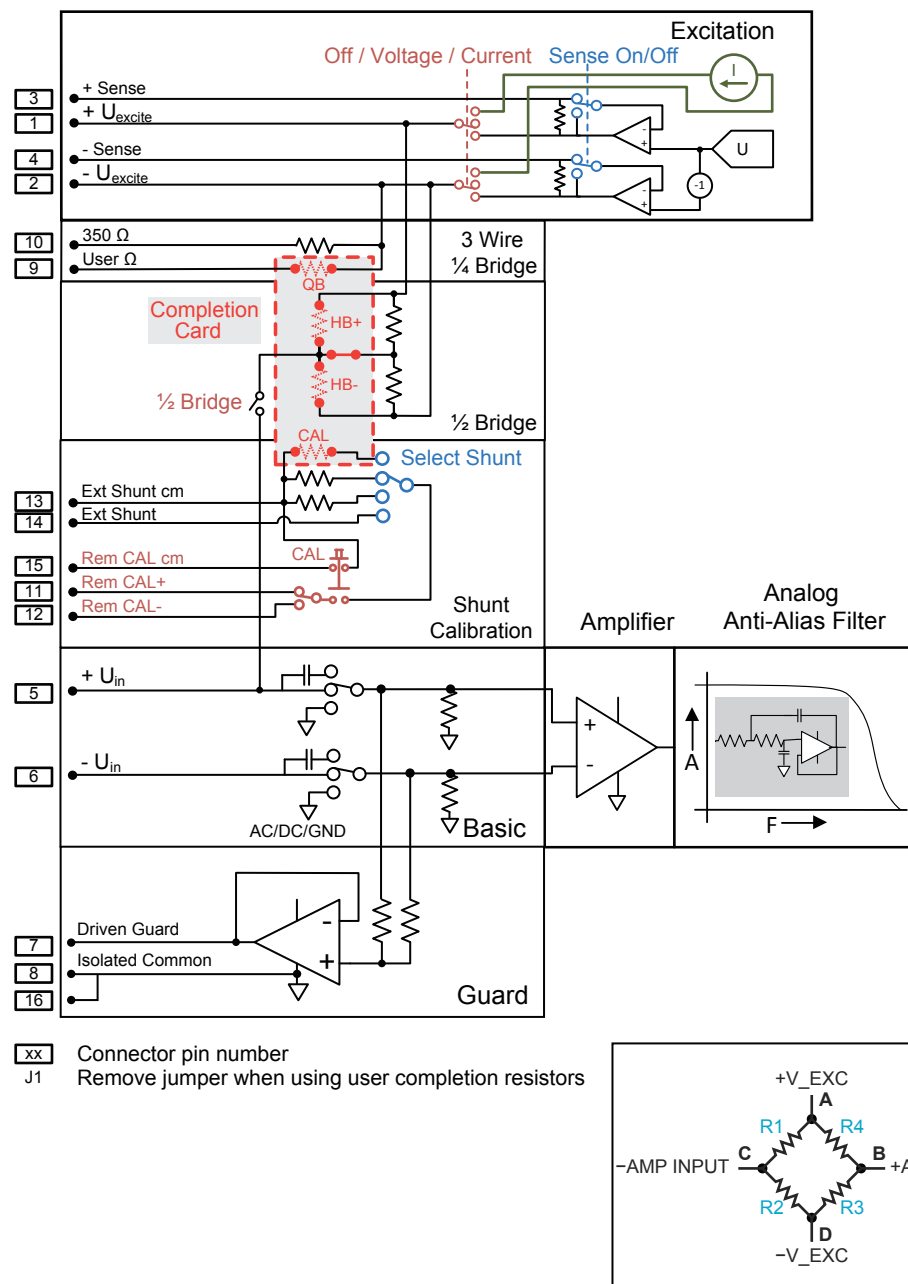
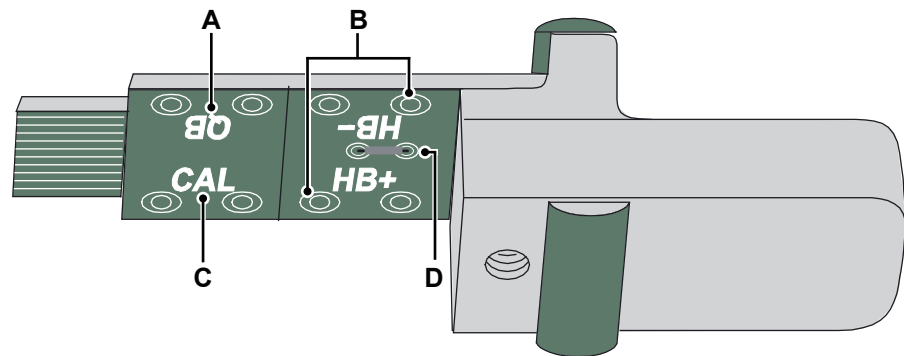

Figure N.1: Bridge amplifier block diagram with pinning
Figure N.2: Shunt calibration completion plug-in module
- E Sense on/off (S1a and S1b in Figure N.1 on page 904)
- I Excitation on/off (S2a and S2b in Figure N.1 on page 904)
Two resistors need to be added to the plug-in module in the locations marked HB+ and HB- for the second situation. You will also need to remove the jumper J1. Please refer to Figure N.1 on page 904 for electrical/schematic details and to Figure N.2 on page 906 for mechanical/location details.
For the second situation, a resistor needs to be added to the plug-in module in the location marked QB. Please refer to Figure N.1 on page 904 for electrical/schematic details and to Figure N.2 on page 906 for mechanical/location details.